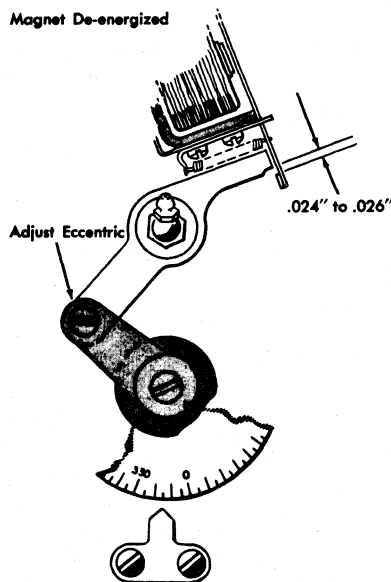

Figure 112. Print Drive
7. De-energize magnet and, with punch clutch latched, adjust eccentric screw in lower end of suppress arm to obtain .024-inch to .026-inch clearance between inside edge of armature block and suppress arm (Figure 112).